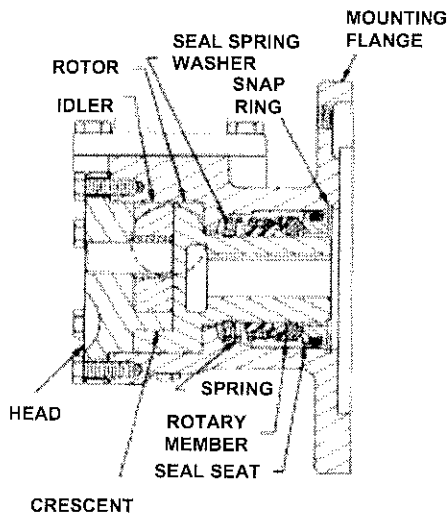

FIGURE 9
To Reassemble Model G475 or GG475 Mechanical Seal Pumps: (see figure 9)
4. THE HEAD CAN NOW BE ASSEMBLED ON THE PUMP. Tilt the top of the head away from the pump slightly until the crescent enters the inside diameter of the rotor and rotate the idler until its teeth mesh with the rotor teeth. Do not damage the head gaskets. Note correct position of idler and crescent (see figure 9 and Disassembly Step 2). Tighten the head capscrews and the check the end clearance.
6. INSTALL THE MECHANICAL SEAL. Slide the seal spring washer over the rotor hub as far as it will go. Flush the rotor hub and seal housing bore with light oil (not grease) and assemble spring, rotary member and seat of the mechanical seal; in position, refer to figure 9.